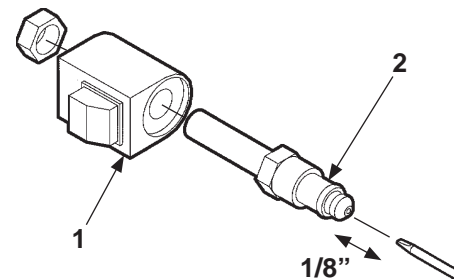

FIG. 47-2
2. Check the valve stem by removing the coil assembly (**Item 1, FIG. 47-2**). With platform on ground, unscrew the valve stem, (**Item 2, FIG. 47-2**) from the pump. Push on the plunger that is located inside the valve stem by inserting a small screwdriver blade in the end. If the plunger does not move freely (approximately 1/8") replace the valve stem. **When reinstalling valve stem, torque hex nut to 30 in-lbs.**